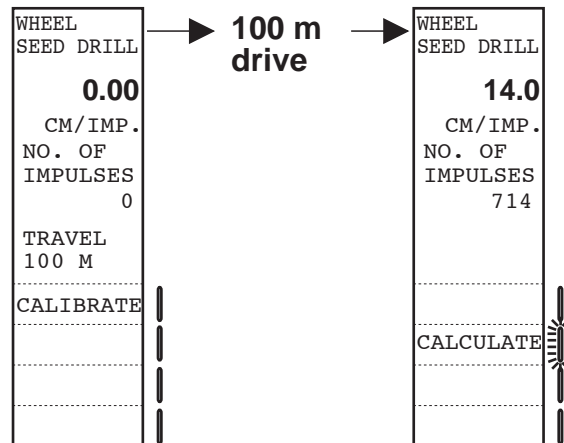

Fig. 22 - 25 Calibrating the path sensor
- If the computer has received enough impulses, the “calculate” function key will flash, see Fig. 22 - 25. Press this key and the calibrating will end. The calculated data will appear on the screen.